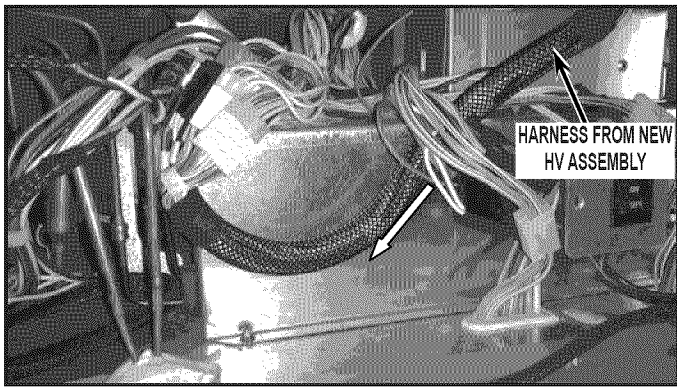

FIGURE 12
- Route the harness from the new HV assembly behind the wiring as shown in *Figure 12*.